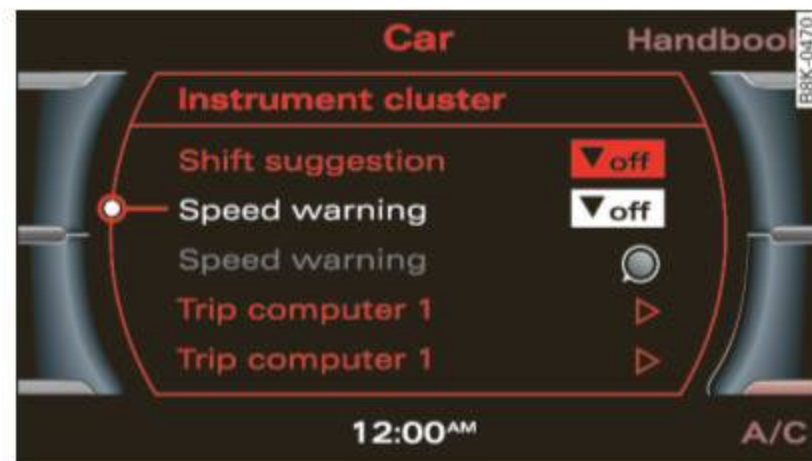

Fig. 24 MMI display:
- **Speed warning** - the warning threshold can be turned on or off ⇒ fig. 24.